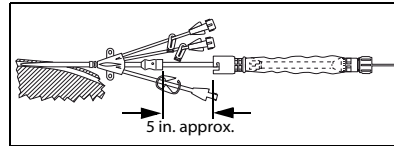

Fig. 10
20. Hold access device in place and reposition catheter contamination shield so that distal hub is approximately five inches (12.7 cm) from hemostasis valve (refer to Fig. 10).